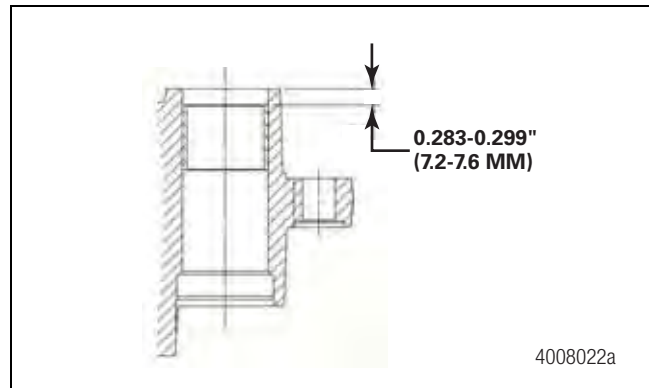

Figure 5.36
3. Using the applicable parts from Meritor tool MST 1000, pull the bushing into the slide pin bore to a depth of 0.283-0.299-inch (7.2-7.6 mm) measured from the end face of the housing (on the boot retainer side of the bore). Figure 5.36.